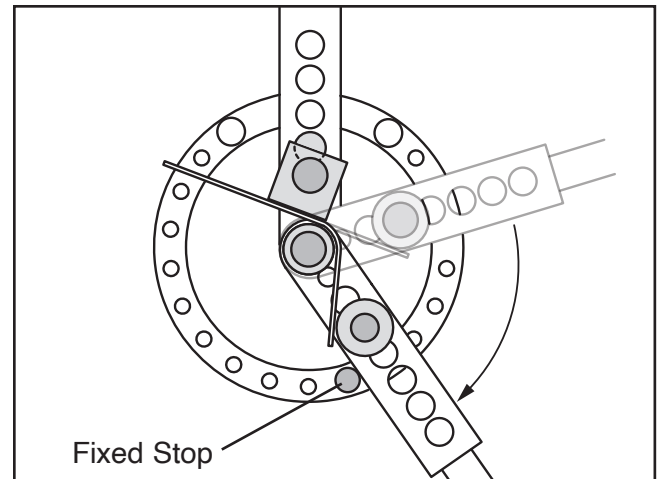

Figure 5. Basic radius bend.
5. To limit the bending range, install the fixed stop in the appropriate hole in the outer ring of the bending bracket, shown in **Figure 5**.
6. With stable footing, bend the workpiece by pulling the handle towards you, as shown in **Figure 5**.